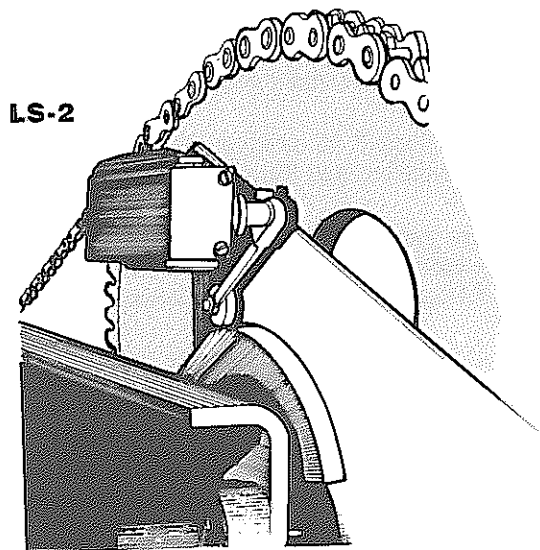

Fig. 39
6. Check stopping position of switch arm roller on cam. It should be on the high part of cam, see **Fig. 39**.
10. Repeat Steps 2 through 5 and Step 8 until the switch arm roller is on the high part of the cam, see **Fig. 39**.